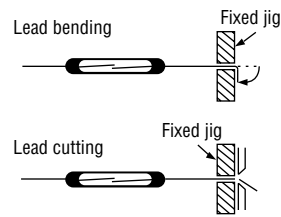

Figure 2.1
- (1) Cutting and bending positions must be determined with reference to the center of the contact or to the end of the lead. If the position is measured from the end of the glass tube, the contact center position may be moved.
- (2) When in cutting or bending the leads, be sure to protect the sealing portions. As shown in Figure 2.1, the lead should be placed firmly by a jig.
- (3) After the process, confirm that there is no crack or chipping in the glass tube.